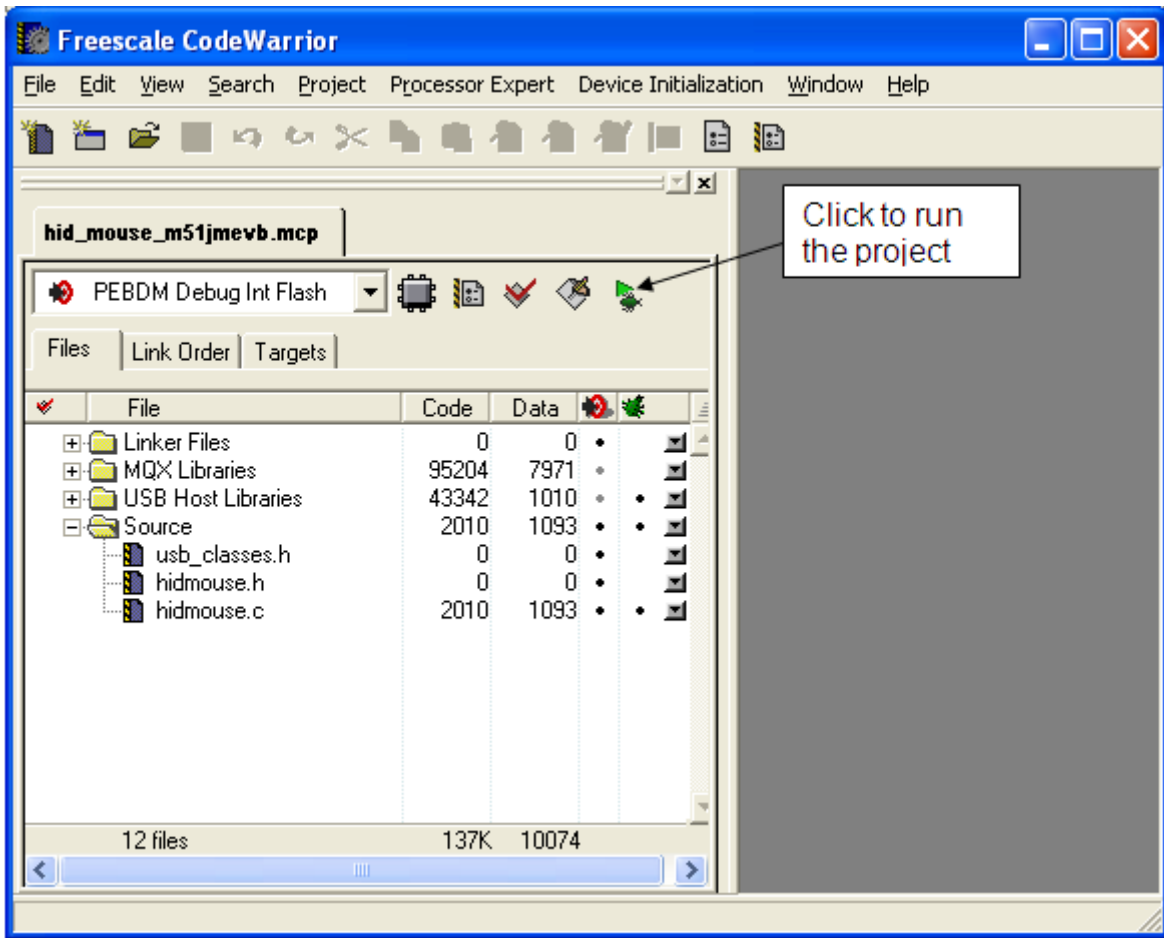

Figure A-4. Running the Application
1. To run the application, click the button as shown in Figure A-4.